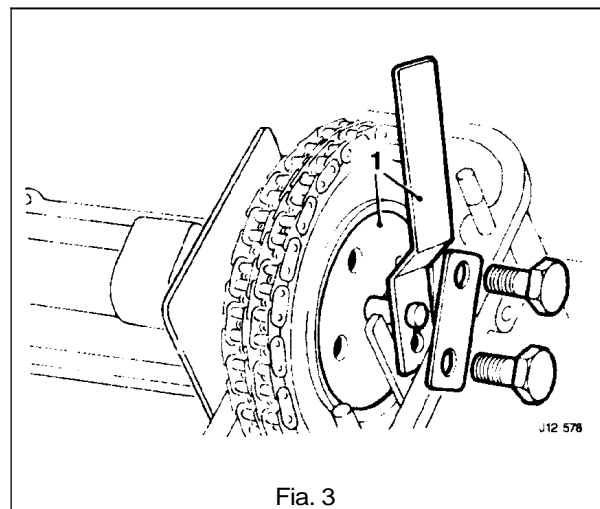

Fig. 3
- Remove the remaining two camshaft sprocket bolts and fit Service Tool JD 40 (1 Fig. 3) to retain the sprocket to the retainer plate.